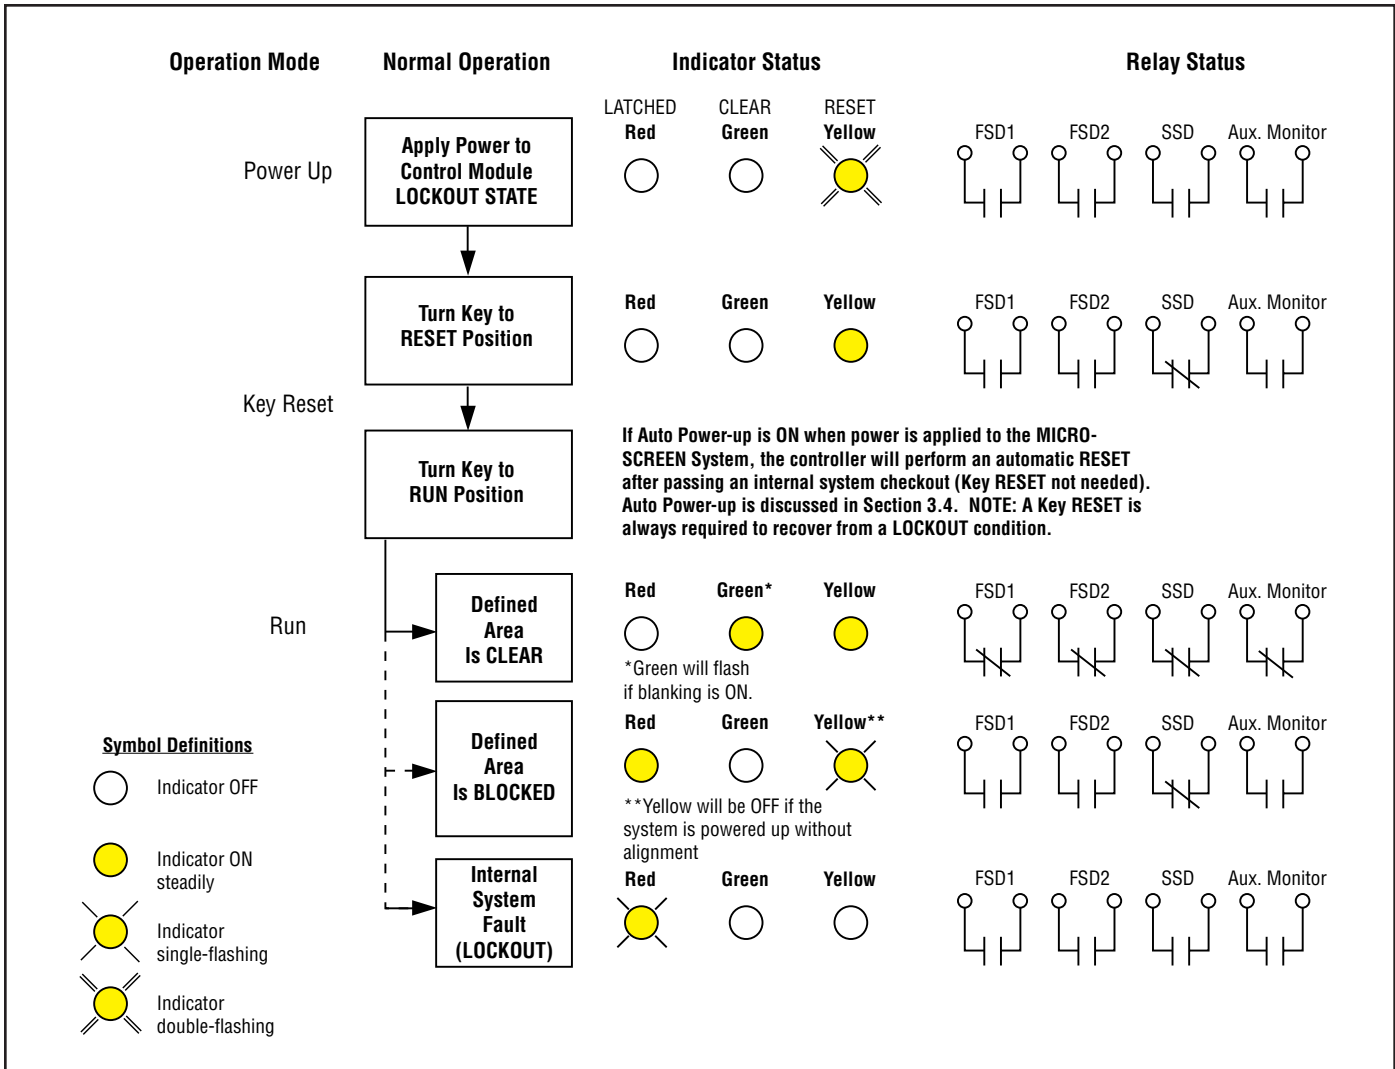

Figure 5. Operating status indicator conditions
- Routinely upon power-up of the MICRO-SCREEN System (unless Auto Power-up is ON; see Figure 5, page 10), or
- If power to the MICRO-SCREEN System is interrupted (unless Auto Power-up is ON; see Figure 5).
A lockout condition resulting from an internal system fault is indicated by a flashing red status indicator on the control box and the receiver unit. The green and yellow status indicators will be OFF. See Figure 5, page 10.